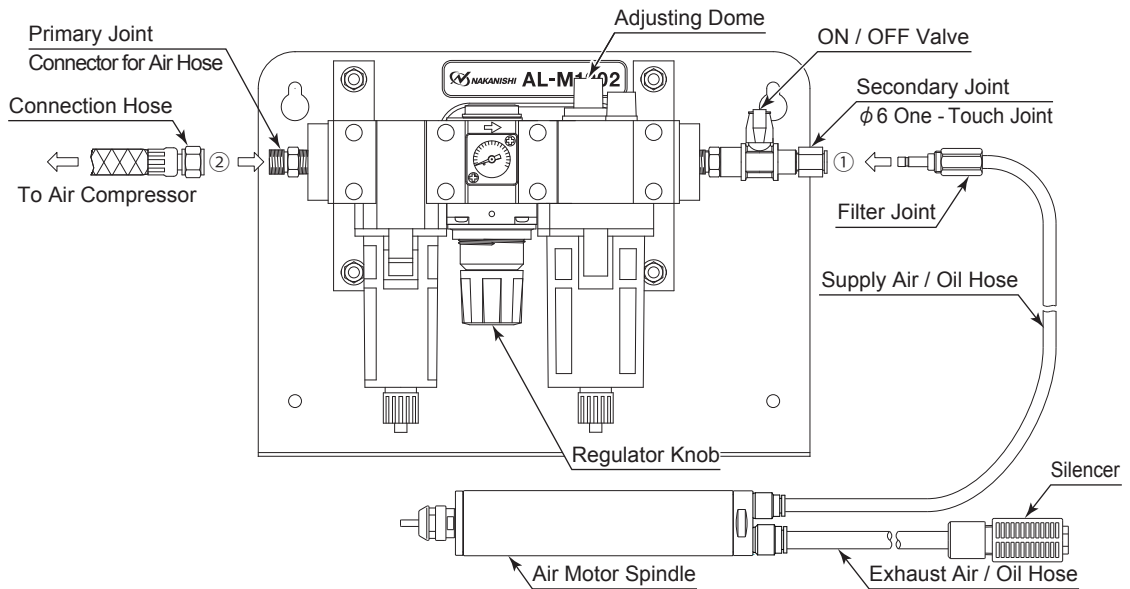

Fig. 16 Connection of Air Line Kit " AL - M1202 (Sold Separately) "
- ① Connect the Filter Joint of the supply air / oil hose to the Secondary Joint (  $\phi$  6 One - Touch Joint) of the Air Line Kit (Fig. 16 ①).
- ② Fill Oil Reservoir through the Oil Filler Cap with recommended NAKANISHI Lubricating Oil (K - 211 : Air Line Kit's Standard Accessories) to Upper Limit. Disconnect from air supply prior to opening Oil Filler Cap. Do not over or under fill.
- ③ Connect the connection hose (Air Line Kit's Standard Accessories) to the Primary Joint of the Air Line Kit and Compressor (Fig. 16 ②).
- ④ Supply air from the air compressor and turn the Regulator Knob to set air pressure between 0.3 - 0.5 MPa (43.5 - 72.5psi).
- ⑤ Turn the ON / OFF Valve and rotate the Air Motor Spindle with recommended proper air pressure. Adjust the Oil Drip Rate to the recommended volume which is 1 to 3 drops / min (Commercially Air Line Kit is same Oil Drip Rate).
- ⑥ Be sure to adjusted to proper Oil Drip Rate before using the Air Motor Spindle.